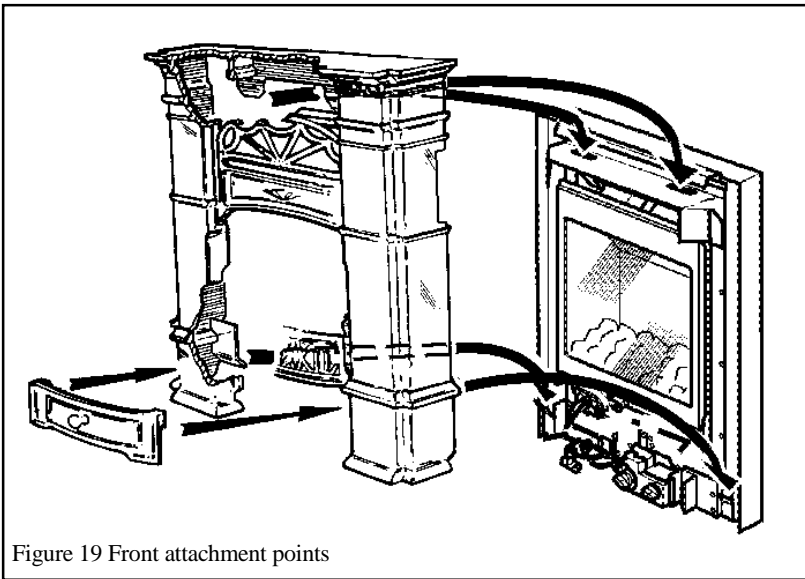

Figure 19 Front attachment points
- Raise the front casting unit so that the bottom location brackets and the top location plate are released from the locations in the main fire case. See figure 19